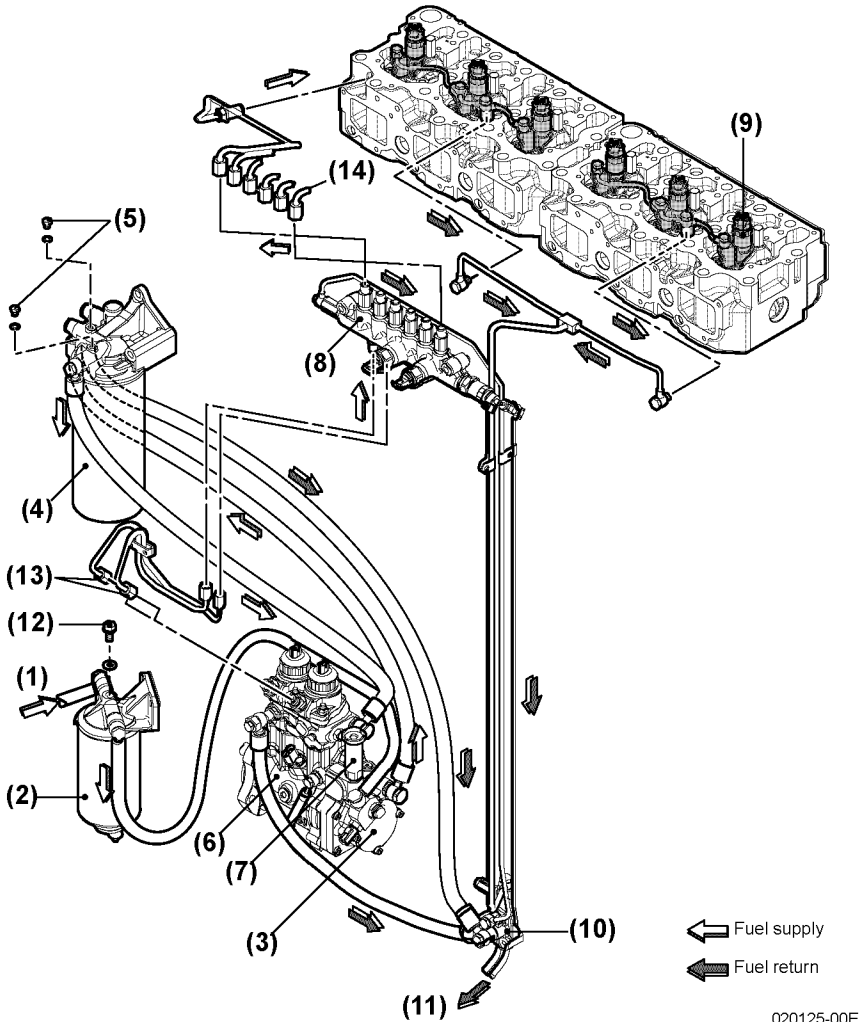

Figure 4
3. Loosen the air bleed screws (**Figure 4, 5** and **Figure 4, 12**) 2 - 3 turns. NOTICE: *Do not loosen the fuel lines.*
5. Push the priming pump (**Figure 4, (7)**) until fuel flows from the air bleed screws (**Figure 4, (5)**) (about 200 times), then tighten the air bleed screws.